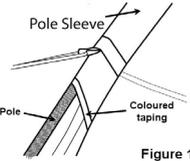

Figure 1
4. Taking the assembled curved roof poles in turn, gently PUSH them through the pole sleeves in the flysheet that have the same colour coding as the colour coding on these roof poles. Where possible avoid standing on the flysheet, as this will damage it. (See figure 1).
7. Taking these assembled fibreglass poles in turn, gently PUSH them through the pole sleeves in the flysheet with the same colour coding as the mid section of the pole. (See figure 1)